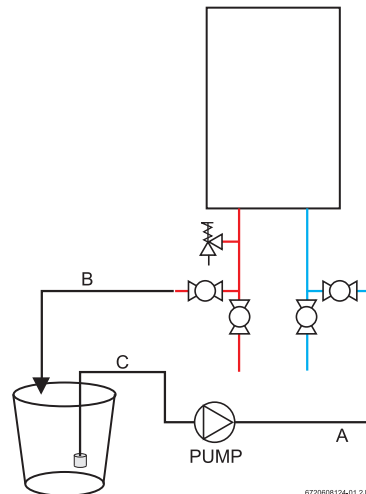

Fig. 62
5. Connect a line (A) from the outlet of the circulating pump (installer supplied) to the inlet water fitting on the water heater (see Fig. 62.)
6. Using another line (B), connect the water outlet fitting on the water heater. Route the other end of this line into a descaling reservoir.
7. Using a 3rd line (C) from the descaling reservoir, connect to the inlet side of circulating pump. Install a filter on the end of the line in the descaling reservoir.